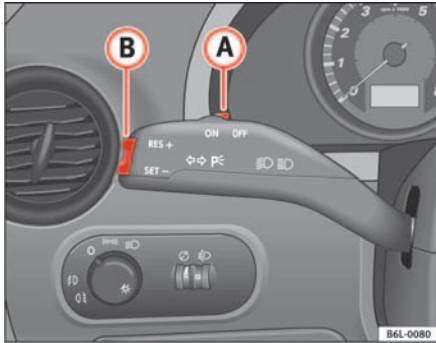

Fig. 105 Turn signal and main beam lever: switch and rocker switch for CCS
- Move the control ⇒ fig. 105 (A) to the left to **ON**.